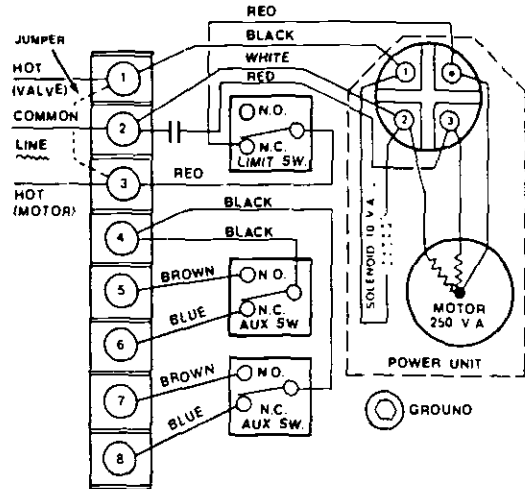

Figure 4. Wiring --EHR 202-206 Without Positioner
4. Connect the power wiring to terminals 3 (HOT) and 2 (COMMON) (Figure 4 or 5).